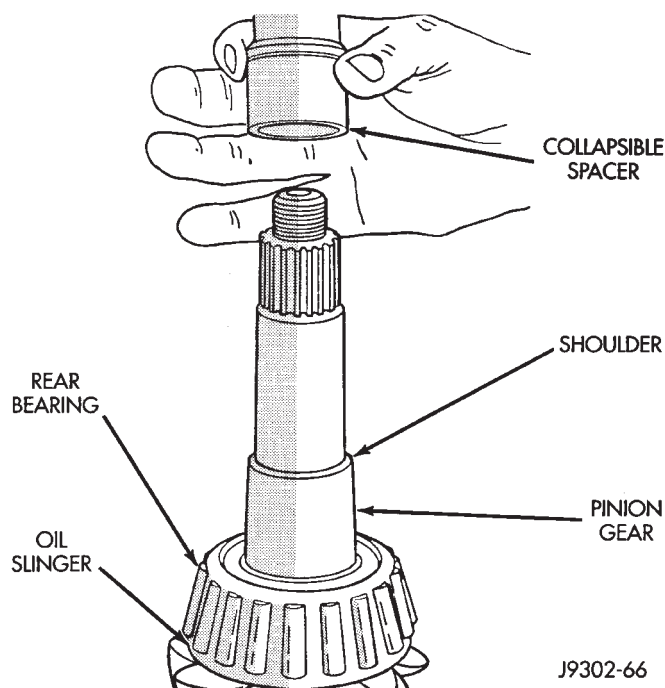

Fig. 44 Collapsible Spacer
(11) Remove the collapsible preload spacer (Fig. 44).